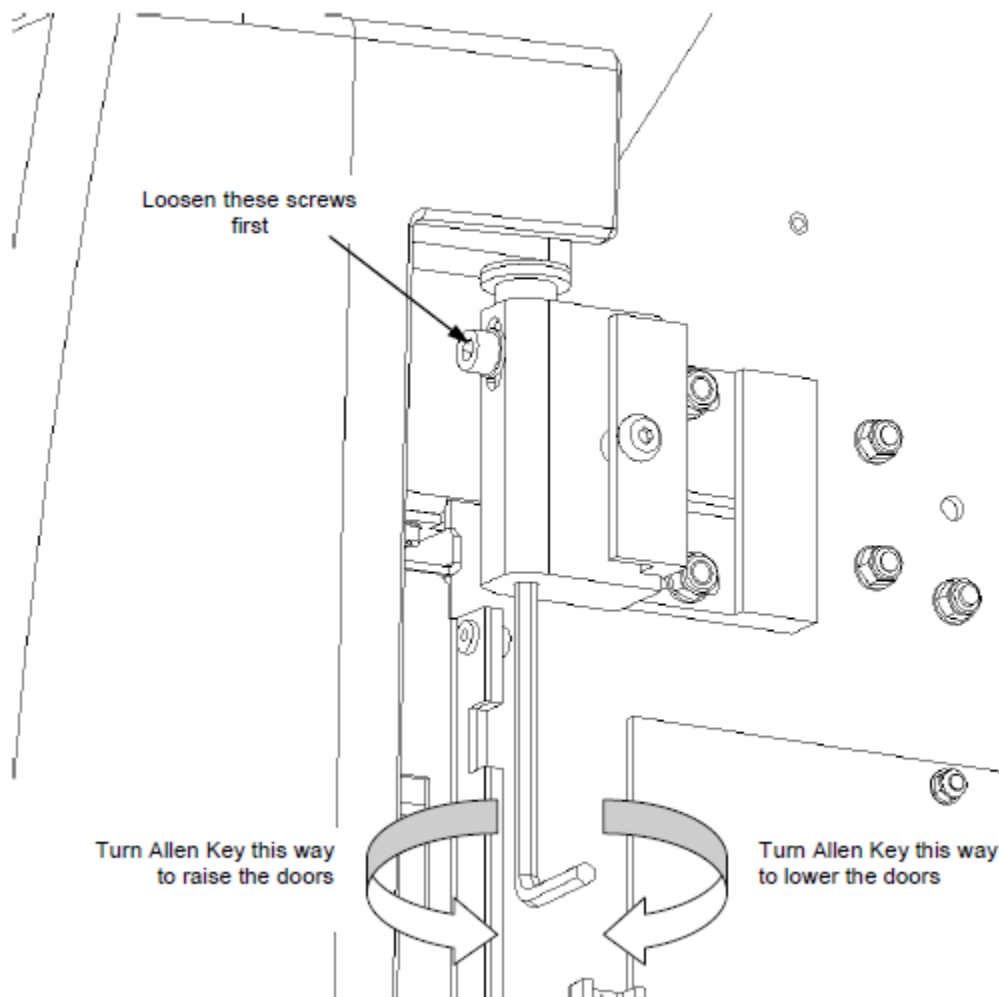

Figure D-7: Raising or Lowering Doors
1. Remove the hinge body covers as described in Section D.2.1, steps (1) and (2).
2. Loosen the screw shown in Figure D-7 on both hinge assemblies.